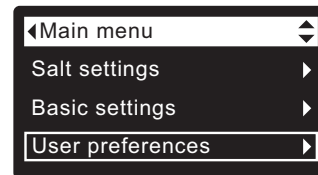

FIG. 57
1. From any of the rolling status screens, press the SELECT (O) button to display the **Main menu**.
2. Press the DOWN (▼) button to scroll through the menu options until **User preferences** is highlighted (See Figure 57).